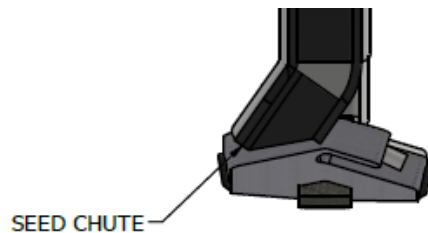

Figure 3: Seed chute on "left" opener
- 1) Bolt openers to shank using the provided $\frac{1}{2}$ " x $1 \frac{7}{8}$ " bolts and nuts. You may need to use a screwdriver or a pry bar to open the shank to mount the opener. Mount the openers with the seed chute pointed towards the center of the drill (see Figure 3 below).
High-rate side band liquid and NH₃ openers must be installed with the seed chutes oriented to the center of the drill. A left opener will have the seed chute on the left side as seen in Figure 3.